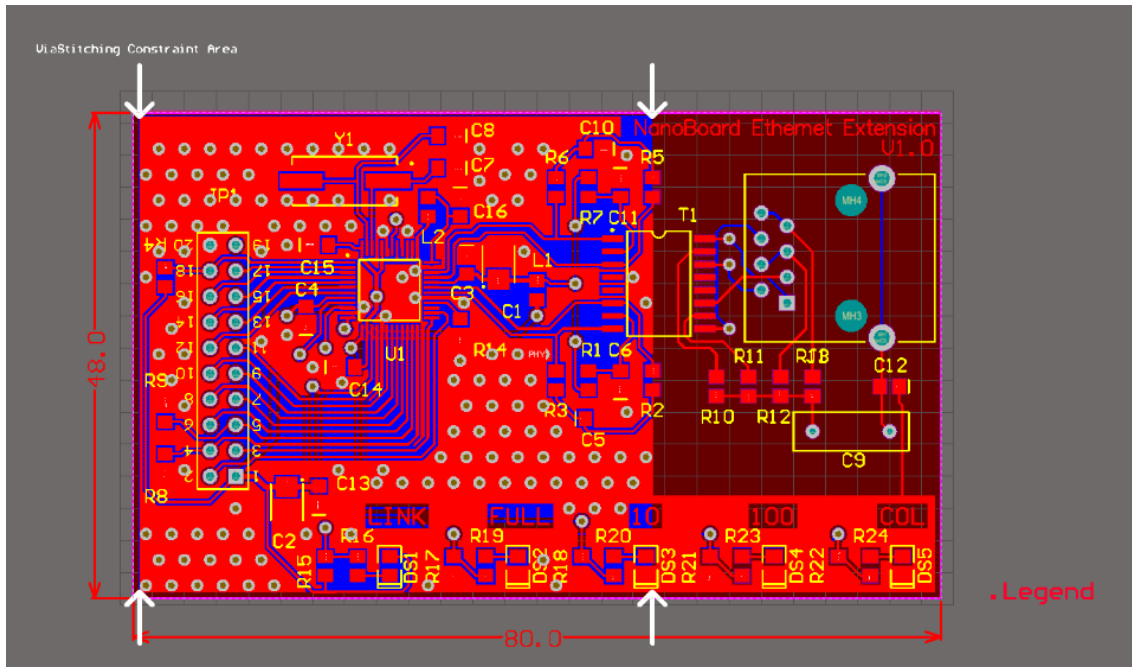

Figure 6. Via Stitching area
- Click on each of the four arrows, as shown in Figure 6 below. Feel free to change the Grid, key **G**, if needed.